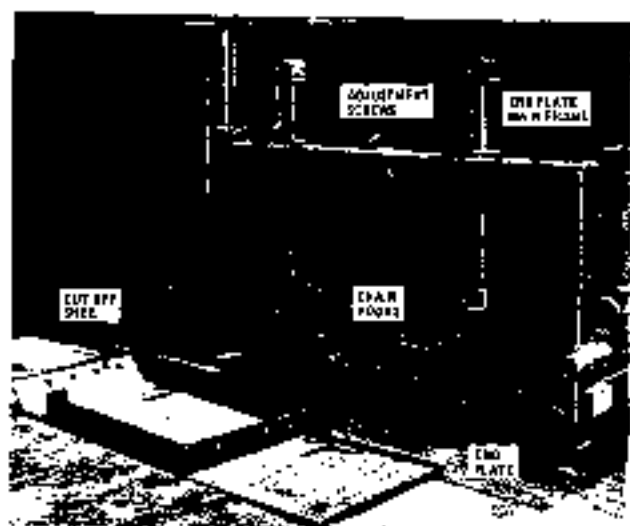

FIGURE F-32 — End Plate
END PLATES (Refer to Figure F-32)
The end plates, Figure F-32, slide into the guide bar on the end plate main frame.
2. Raise the end plate, Figure F-32, and lay cut-off shoe projecting in toward the spreader screw for the desired amount of width reduction.
3. Now lower the end plate, Figure F-32, into the slot on the shoe.